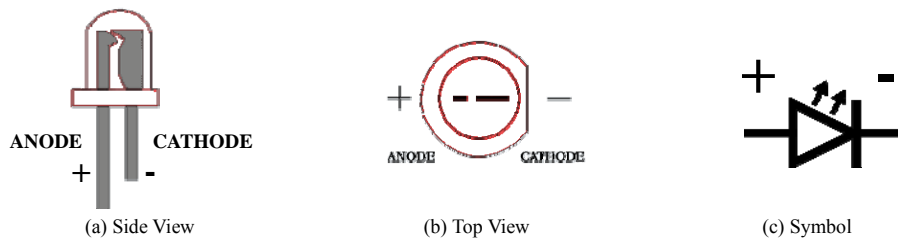

Fig. 3 (a) Side view of a LED. (b) Top view of a LED. (c) Electrical symbol of a LED.
1) Construct the circuit as shown in Fig. 3.